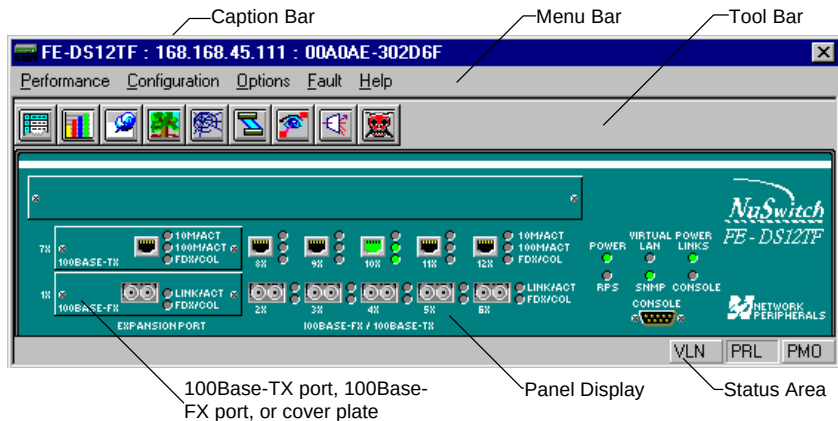

Figure 2. Device Window Showing FE-DS12TF Front Panel
- Figure 2. Device Window Showing FE-DS12TF Front Panel 3-3